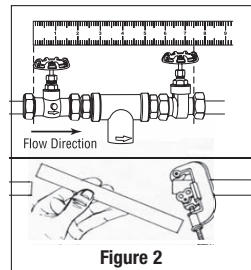

Figure 2
2. Loosely fit compression fittings onto the cartridge head with adapters. Holding the cartridge head with attached adapters up to the pipe, mark for length of pipe to be removed. Using a pipe cutter, cut pipe. (Figure 2)